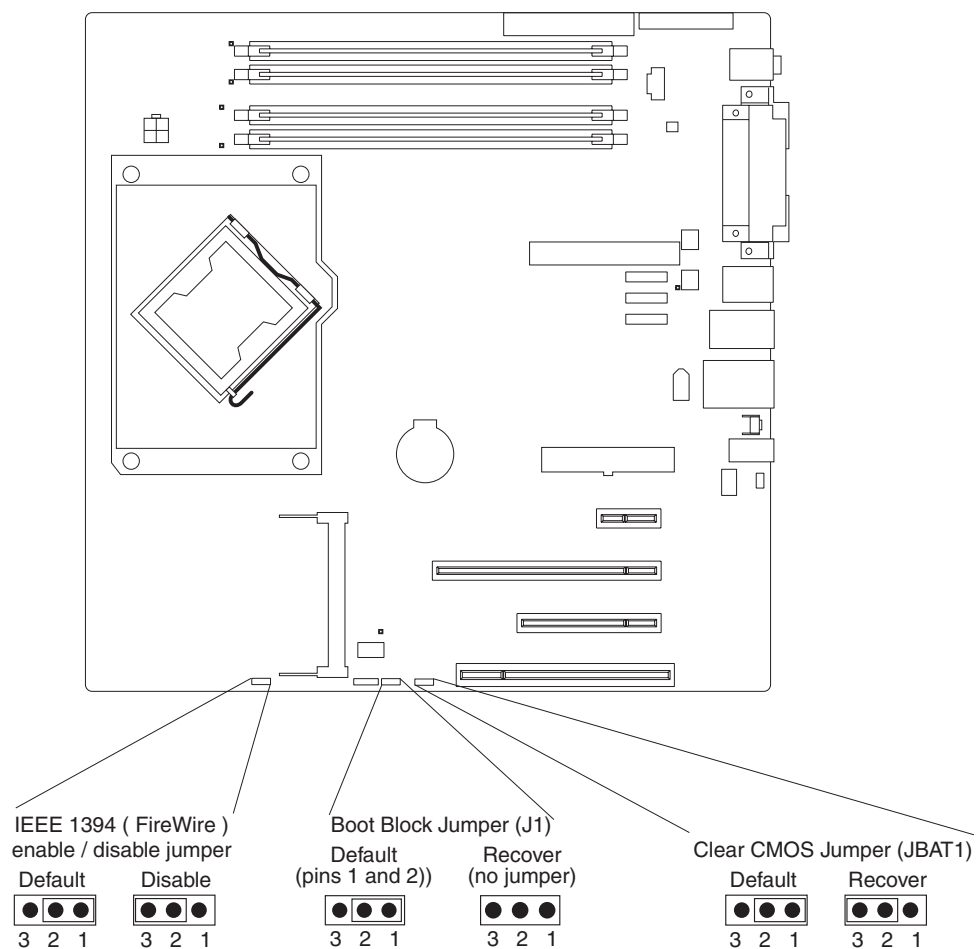

Figure 8. Recovery jumper locations
5. Locate the boot block recovery jumper (J1) on the system board (see Figure 8), removing any adapters that impede access to the jumper.